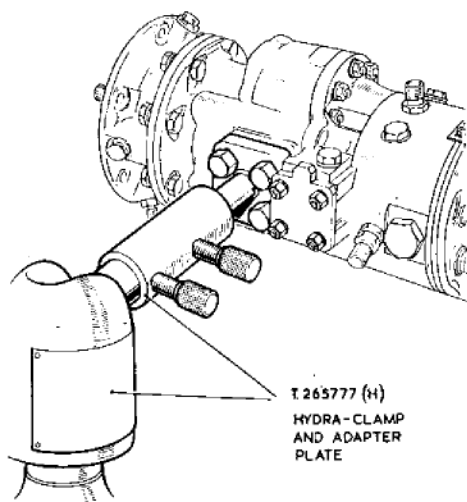

Fig. 3. Dismantling and assembling fixture
15. Mount the pump on the Hydra-clamp fixture T.265777/H (fig. 3) and remove the eight nuts, washers and shims from the diaphragm cover, using the ring spanner T.199127. Lift off the modification plate bracket.